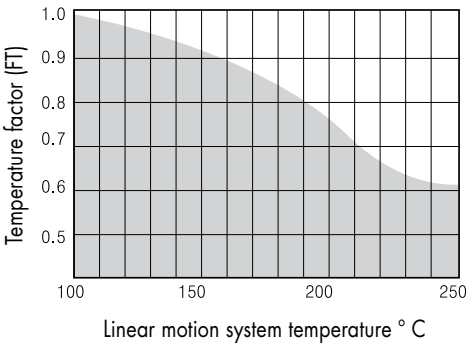

Fig 9. Temperature Factor (FT)
- FT : Temperature factor (figure 9)
Ball bushings in this range are designed to work at a maximum temperature of 100 degrees C, for temperatures higher than this please apply the temperature factor as indicated in figure 9.